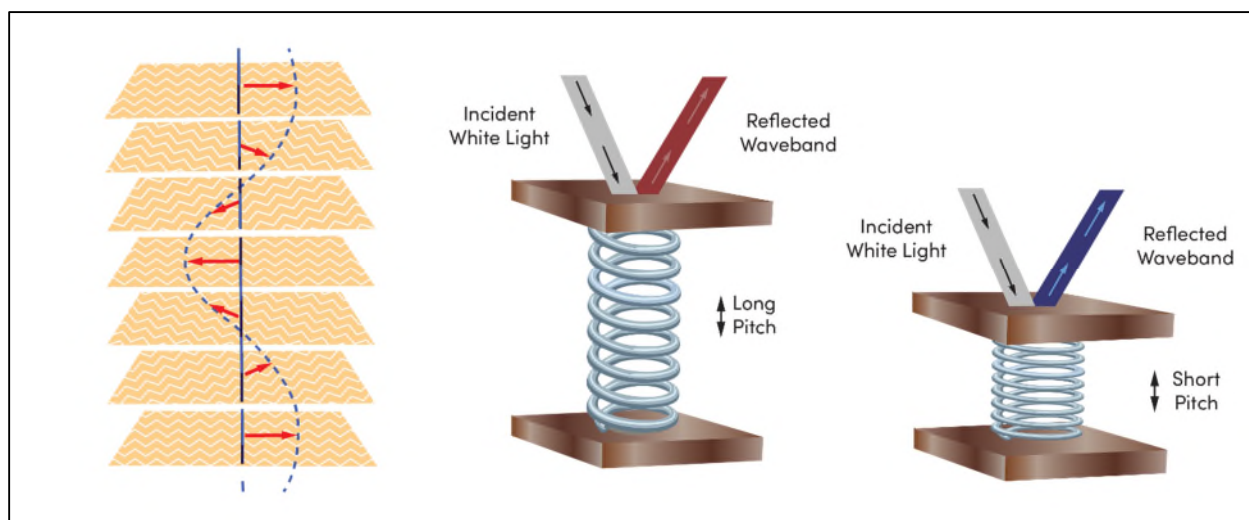

Figure 7. “Selective Reflection in Cholesteric Liquid Crystals” Graphic
- If we try to stack students (or liquid crystal molecules) in a series of layers on top of each other, they tend to twist as shown on the left in Figure 7. The heads of the students point in a spiral direction as we move up through the structure, like a spring.
- Think of the liquid crystals in the black sheet as springs. When they are cool, the springs are relaxed with a long pitch (or twist). (*Refer to the right side of Fig. 7.*)
- As body temperature heats up the patch, the liquid crystal “springs” get tighter and they “selectively” reflect the red-light part of the white room lights. As the temperature climbs, yellow, then green, and finally blue-light are reflected. This is as tight as this liquid crystal gets (*Fig. 7*).